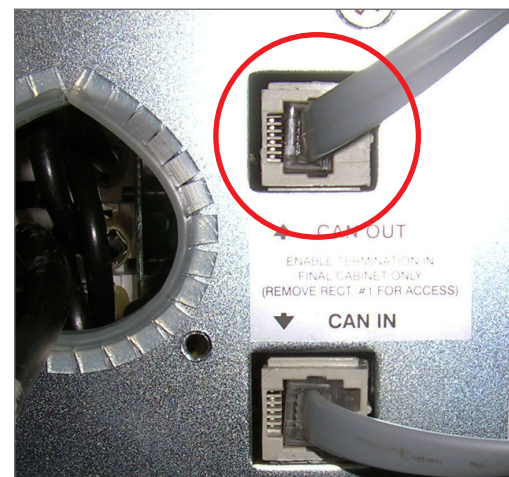

Figure 39: CAN IN and CAN OUT connection
2. Connect the interbay CAN bus cable, which ships with the expansion bay, to the CAN OUT connector of the top rectifier shelf of the expansion bay; see Figure 39.